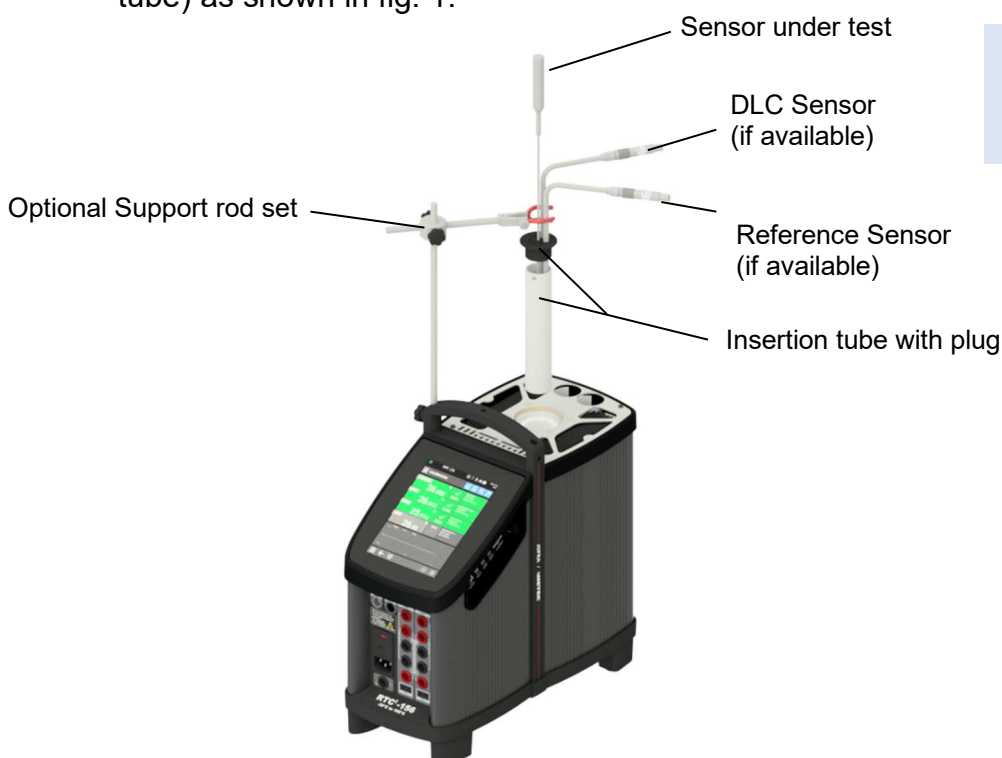
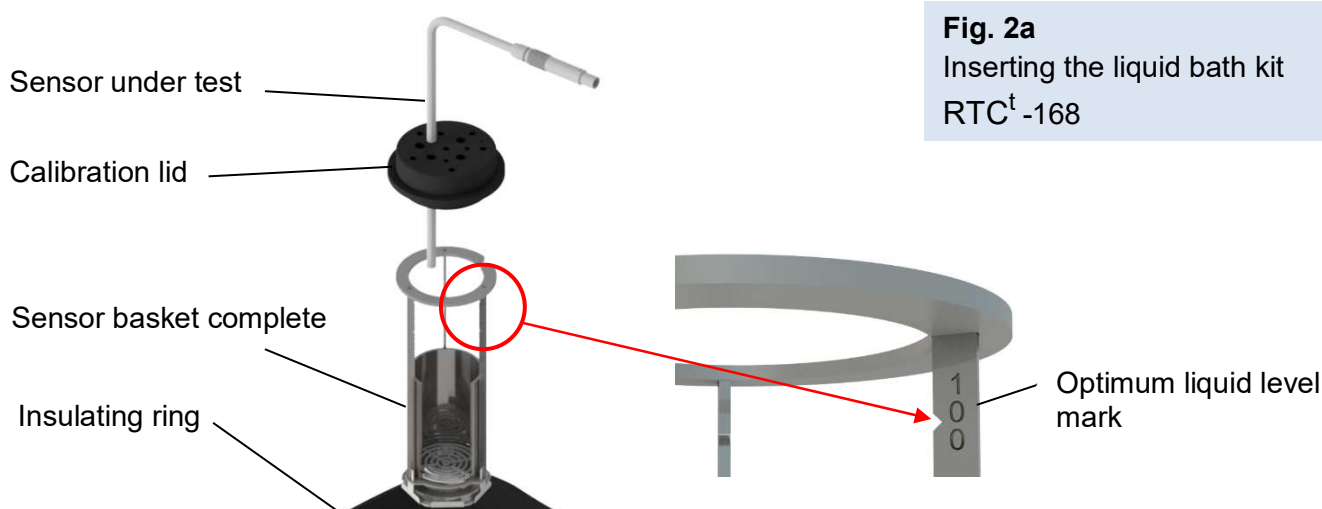

Fig. 1
Fig. 2a
3. Check that the fuse size corresponds to the applied voltage on (pos. ③). The fuse is contained in the power control switch (on/off switch). To check; follow the procedure in the RTC^t Reference manual, 130787 section 3.1.1.
5. Select an insertion tube with the correct bore diameter matching the sensor to be calibrated. Ensure that both the well and the insertion tube are clean. Insert the tube into the well as shown in fig. 1.
6. Place the sensor under test and the reference/DLC sensors (if available in the insertion tube) as shown in fig. 1.
5. Place the parts from the liquid bath kit in the well in the following order (see Fig 2a):
The sensor basket is marked with an optimum liquid level mark (100%). When filling the well with liquid and placing the sensors, this mark must **never** be exceeded (see Fig 2a)
7. Place the calibration lid (see fig. 2a) onto the well. Holes with a boring diameter matching the sensors to be calibrated must be drilled into the lid before using it.
10. Place the sensor (see fig. 2a) and the reference sensor (if available) to be calibrated vertically into the well. It is recommended to use the optional support rod set for a correct position during calibration (see fig. 1).